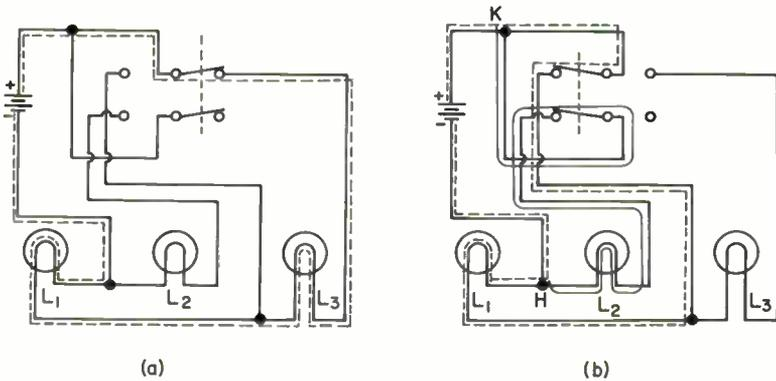

Fig. 15
5. (a) L_1 and L_3 will be on . . . See Fig. 15(a) for the current path. Note that the path shown by the dashed line is the only possible way to trace around the circuit from negative battery terminal to positive terminal. (b) series (c) L_1 and L_2 . . . See Fig. 15(b) for current paths. Tracing from the negative battery terminal, upon reaching point H there are two paths we can follow that will bring us back to K and the positive battery terminal. One path is shown by the dashed line, the other by the solid line. (d) parallel